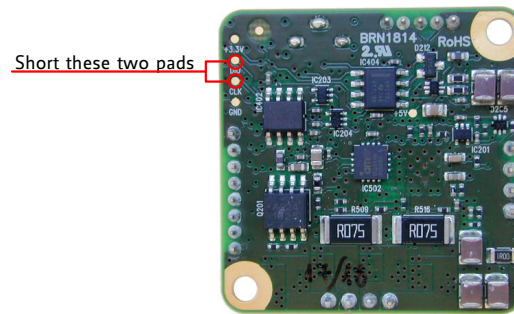

Figure 5: Reset to factory default settings
2. Short CLK and DIO pads of programming pads on bottom of pcb (see figure 5)